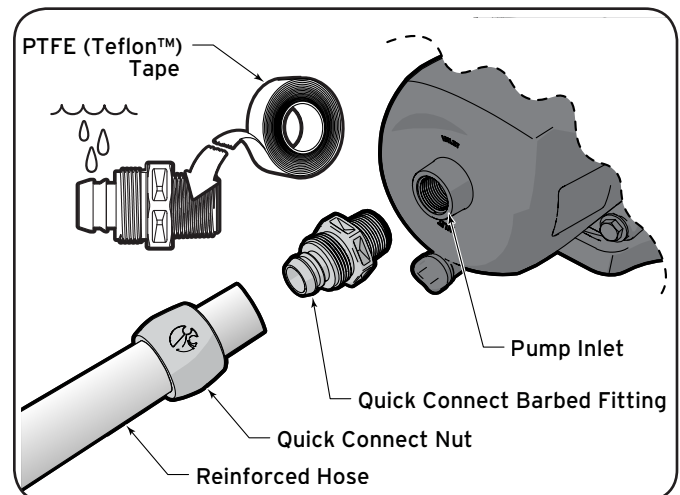

Figure 9. Quick Connect Installation
12. Install a second quick connect barbed fitting at the pump suction inlet. See Figure 9.
5. Apply 4-6 wraps of PTFE (Teflon™) tape to the tapered threads on all four of the barbed fittings. Be sure to wrap the tape in the opposite direction that the male threads will be turning in order to create a water tight seal. See Figure 9.
8. Slide the quick connect nut over the reinforced hose. See Figure 9.
9. Use water to lubricate the barbs. See Figure 9.